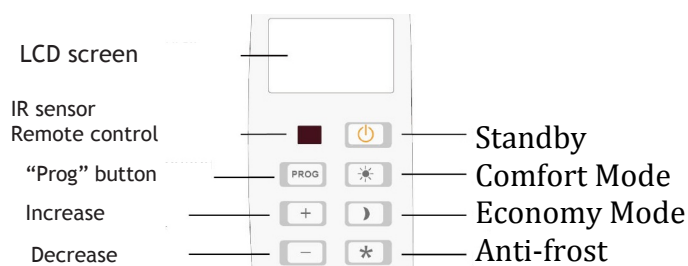

Fig. 13
4) When in "Standby" mode (Fig. 15), press the "Standby" button to switch the heater on (Figure 13). The heater comes on and the last selected operating mode symbol appears on the screen. In addition, the approximate room temperature is displayed.
The heater controls can be unlocked by pressing the “-“ button on the control panel for three seconds (Figure 13) or on the remote control.
When in manual mode, the desired heating mode can be selected (comfort, economy or anti-freeze) by pressing the corresponding button (Fig. 13) and the heater will permanently operate in any of these modes with the assigned temperatures.
- Press the Comfort mode button (Figure 13).
- Press the Economy Mode button (Figure 13).
- Press the Anti-freezing Mode button (Figure 13).
The heater operation can be disconnected by pressing the “Standby” button (Fig. 13).